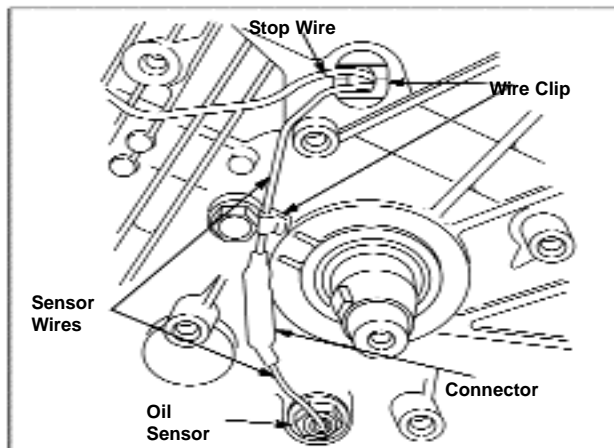

Figure 72 - Oil Sensor Wiring
- Install stop switch wire on armature. See Figure 72.